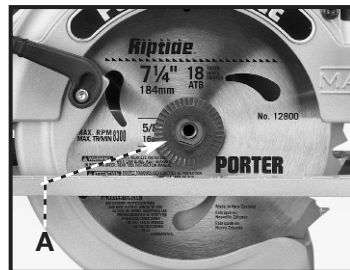

Fig. 5
3. Place the outer blade flange (A) Fig. 5 on the arbor with the smooth side against the blade. Mate the flats with those on the arbor.